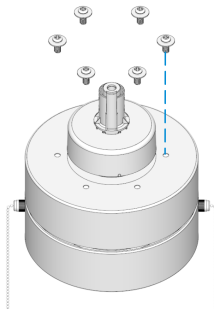

Fig. 1.1
1.1 Remove the blade screws from the motor head, as illustrated in Fig. 1.1.